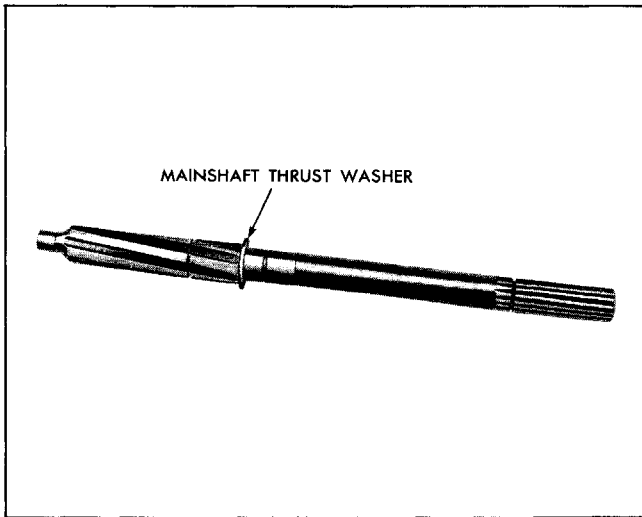

Fig. 7-40 Main Shaft
a. Install mainshaft thrust washer on mainshaft (Fig. 7-40) and press bearing on mainshaft with shielded side of bearing toward engine end of mainshaft. Use a tube or pipe to press on bearing exerting pressure on inner bearing race only and see that bearing race is firmly against mainshaft thrust washer.